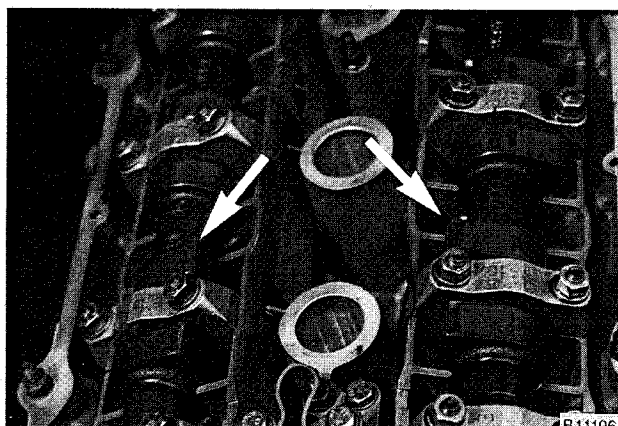

Fig. 8. Camshaft correctly positioned for reassembly so that cylinder no. 1 lobes (arrows) face each other.
- Install camshafts into cylinder head with lobes for cylinder no. 1 pointing up and towards each other. See Fig. 8.